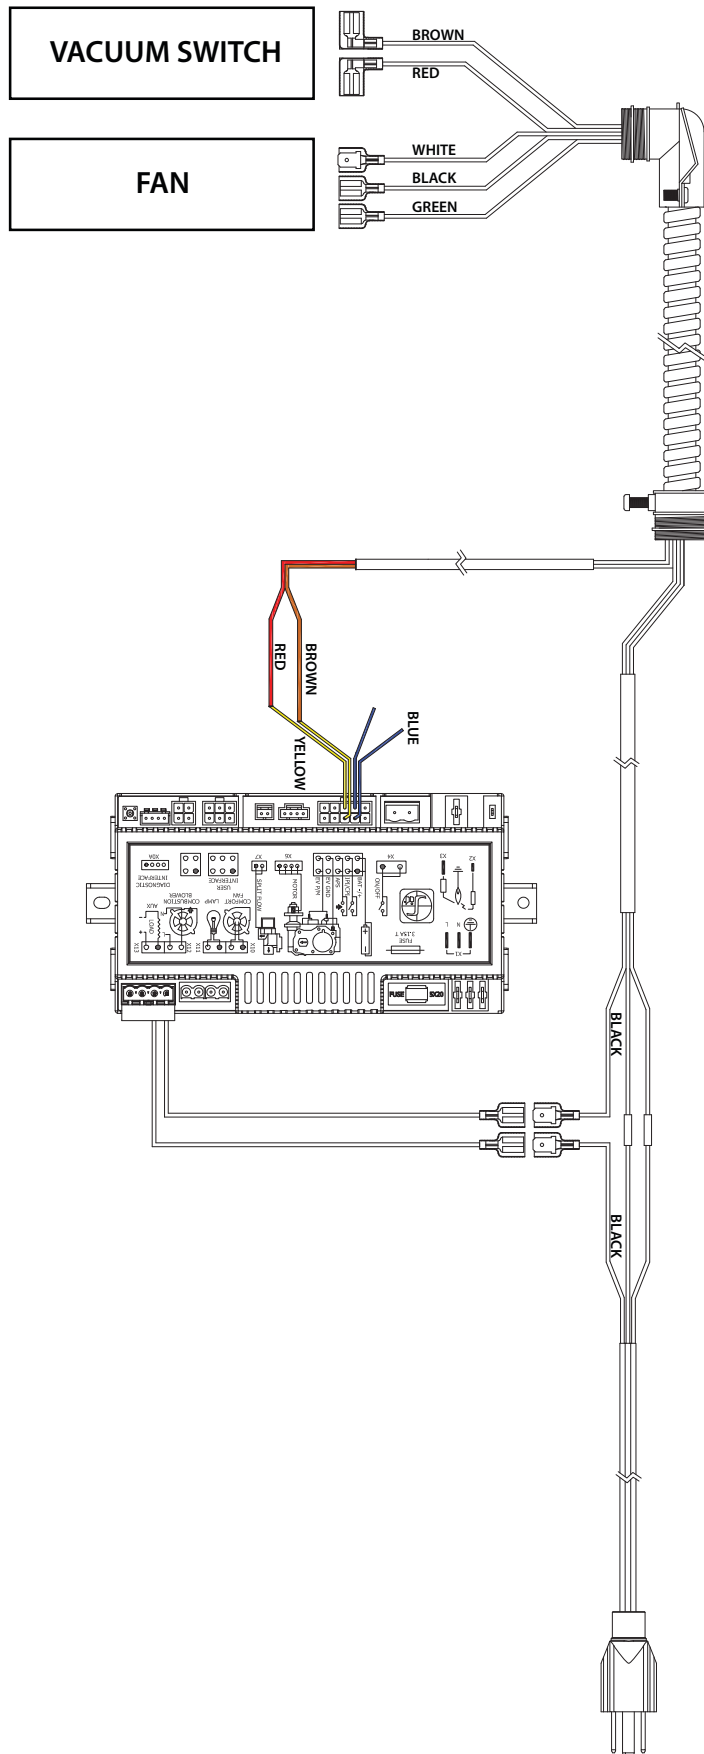

Figure 4.9, Fireplace Internal Wiring
**NOTE:** Use Figure 4.9 (pg. 20) as wiring schematic references when following the individual instructions below.